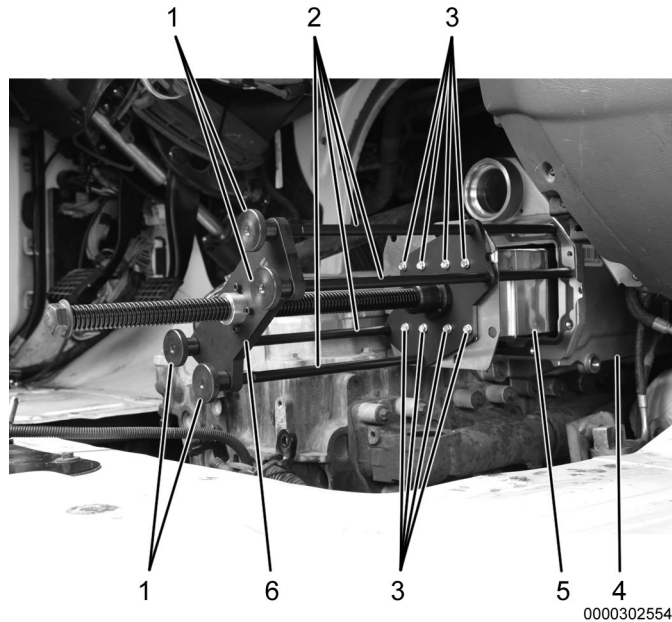

Figure 7. HT EGR Cooler Core Removal.
1. Remove 8 self-tapping screws (Figure 7, Item 3) and puller assembly (Figure 7, Item 6) from HT EGR cooler core (Figure 7, Item 5).
2. Remove four thumb screws (Figure 7, Item 1) from four threaded rods (Figure 7, Item 2).
3. Remove four threaded rods (Figure 7, Item 2) from HT EGR cooler housing (Figure 7, Item 4).